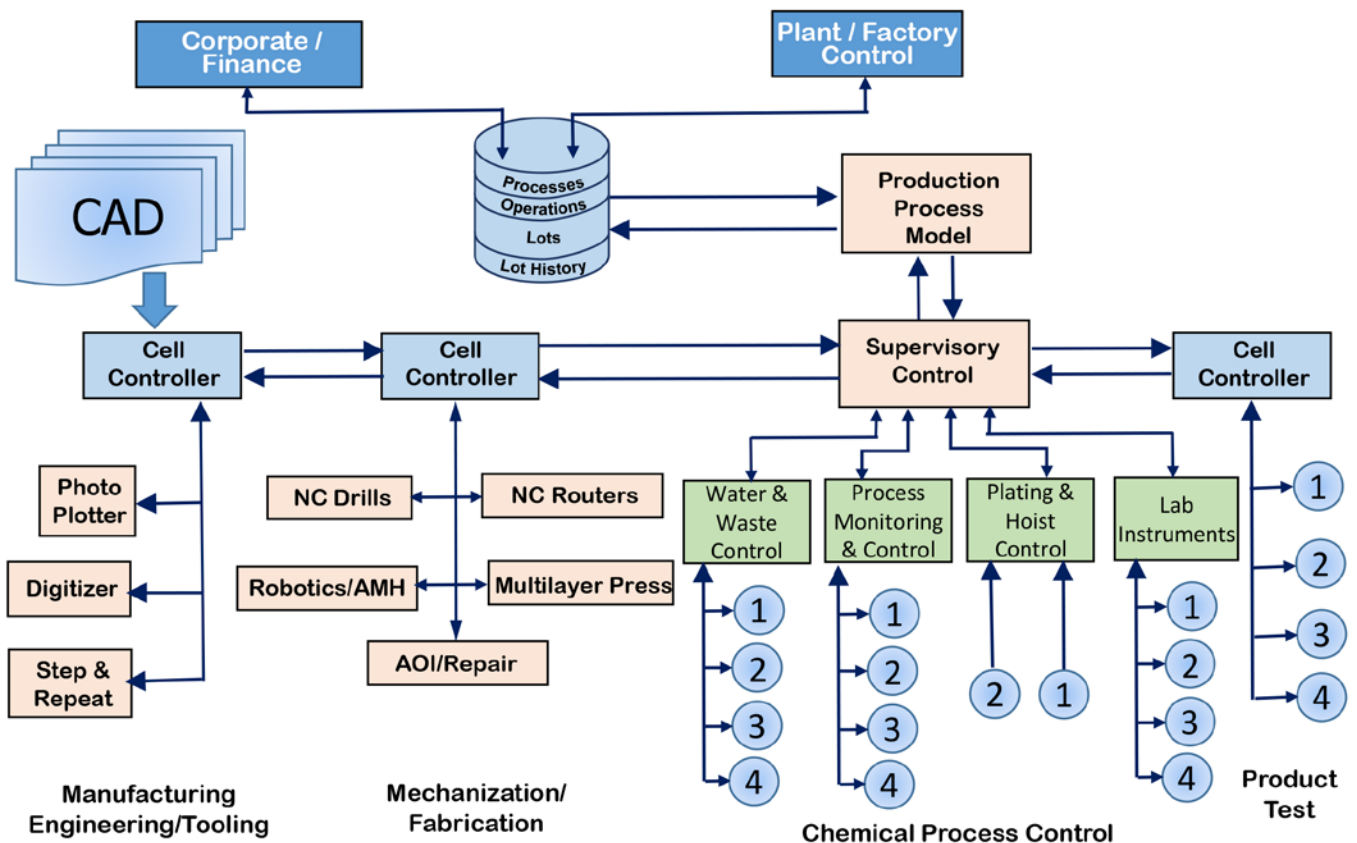

Figure 8: CAM, system hierarchy of an HP Printed Circuit Facility.5
SPCF estimates that the new system has reduced repair labor costs by 30% because of reduced defects, fewer phantom errors, and prior knowledge of systematic defects. In addition, the system shortens test setup time by one hour per machine daily. Also, testing in panel form is several times faster than testing finished boards. Significant labor savings are seen in a number of other ways, because the system has practically eliminated paperwork that used to burden the operators, their supervisor, and process engineers. Figure 8 illustrates an operator in the process of testing a two-image panel.
4. Manufacturing planning and control (as diagrammed in Figure 8)